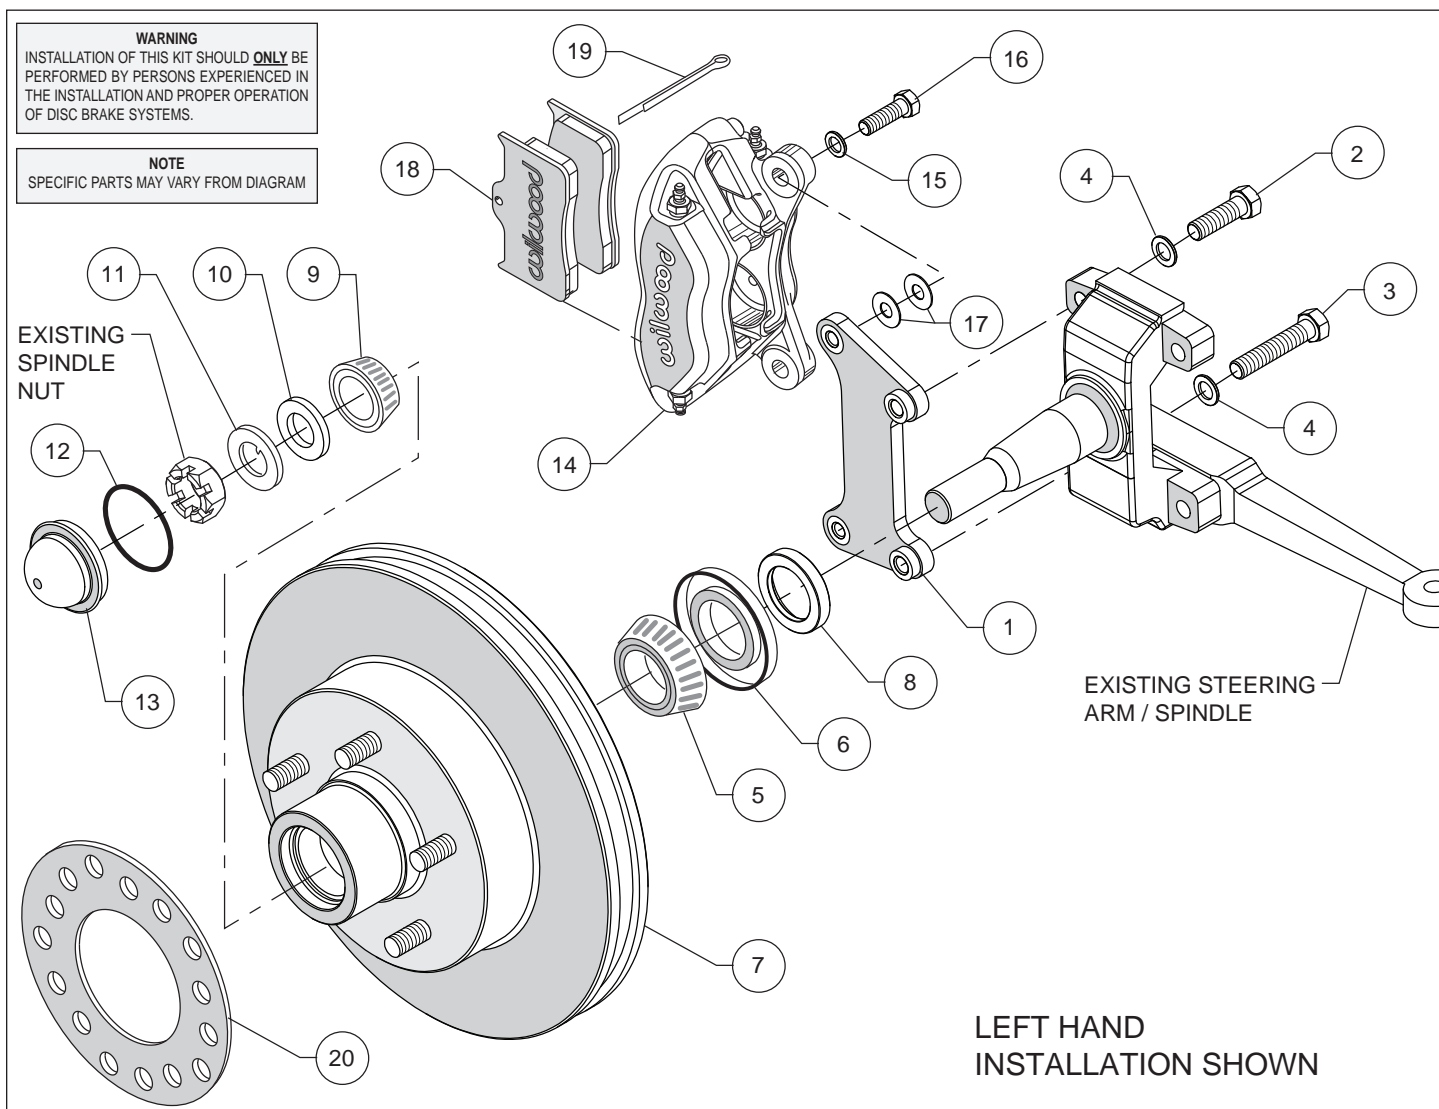
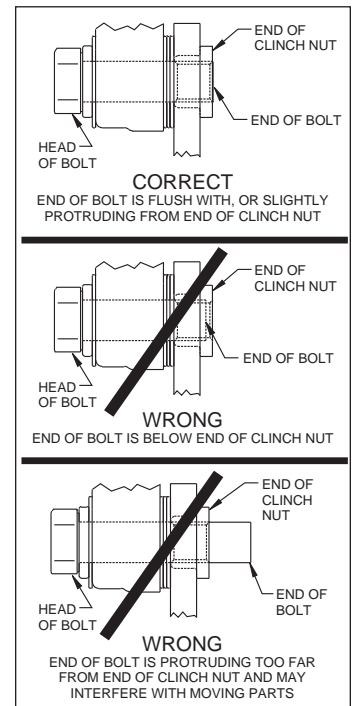

Figure 1. Typical Installation Configuration
Figure 3. Clinch Nut Engagement Diagram
Assembly Instructions (numbers in parenthesis refer to the parts list, on the preceding page and Figure 1): **CAUTION:** All mounting bolts must fully engage clinch nuts. Be sure to check that all bolts are either flush or protruding through flanged side of clinch nut after shimming, Figure 3.
- Orient the caliper mount bracket (1) as shown in Figure 1 and Photo 1, and install using bolts (2/3) and washers (4). Ensure that the flanged heads of the clinch nuts in the bracket are facing outboard, Photo 1. Temporarily tighten the mounting bolts. **NOTE:** The bracket must fit squarely against the mount bosses on the upright. Inspect for interference from casting irregularities, machining ridges, burrs, etc. Remove bolts one at a time, apply red *Loctite*® 271 to the threads and torque to 60 ft-lb.
- Pack the small outer bearing cone (9) with high temperature disc brake bearing grease and install into hub (7). Slide the hub/rotor onto the spindle. Slide spindle spacer (10) onto the spindle and into the hub, Photo 4. Secure using spindle washer (11) and OEM spindle nut. Adjust bearings by tightening the wheel bearing nut to 60 **in-lbs.** while turning the hub/rotor assembly. Back off the adjusting nut one slot and install a new cotter pin (not supplied). **The resulting adjustment should be zero (no pre-load to 0.003 inch end play).**
- Install the o-ring (12) onto the dust cap (13). Press the dust cap into the hub (7).
- **NOTE:** Please reference the caution statement at the beginning of the assembly instructions. Mount the caliper (14) onto the caliper mounting bracket (1) using bolts (16) and washers (15), as shown in Figure 1. Initially place two .035" thick shims (17) on each bolt between the caliper and the bracket, Photo 5. Temporarily tighten the mounting bolts and view the rotor (7) through the top opening of the caliper. The rotor should be centered in the caliper, Photo 6. If not, adjust by adding or subtracting shims between the bracket and the caliper. Always use the same amount of shims on each of the two mounting bolts. **NOTE:** The end of each bolt must be flush with or slightly protruding from the head of the clinch nut, as shown in Figure 3. If necessary place spare shims between washer (15) and caliper mounting ear to achieve the proper clinch nut engagement. Once the caliper alignment and clinch nut engagement are correct, remove the bolts one at a time, apply red *Loctite*® 271 to bolt threads, and torque to 40 ft-lb.